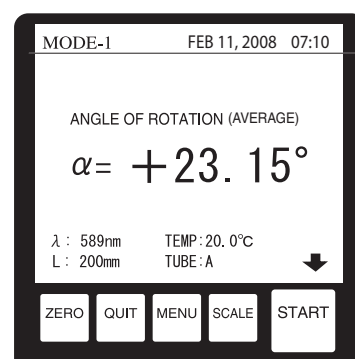

Fig.15-7
e) Average value of the measurements will be displayed when the "MEASUREMENT CNT." is set more than 2 in the MODE setting (Fig.15-7).